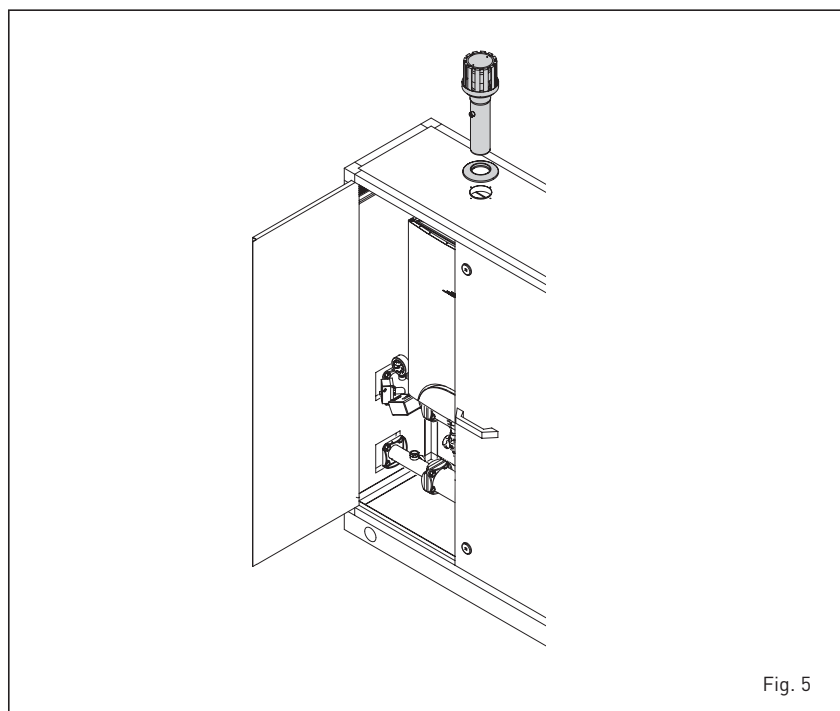

Fig. 5
2.5 EXHAUST FOR OUTDOOR INSTALLATION (fig. 5)
The exhaust terminal for single module code 8089530 is required for this type of installation. For separately supplied accessory assembly see fig. 5.